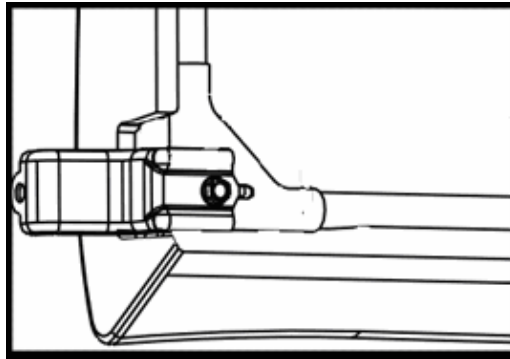

Fig. 7-20
(4) Install the rear seat back pad assembly, as shown in Fig. 7-20.